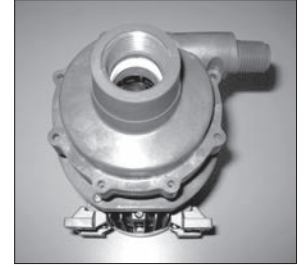

Figure 12
NOTE: Install two long screws (item 7A) inserting one on either side of the discharge nozzle. See figure 12.